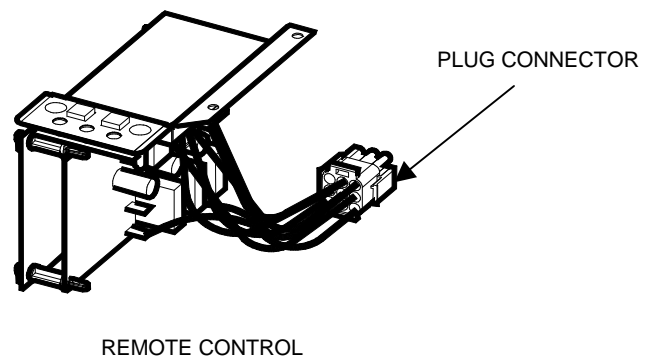

FIGURE 7
1. Locate and insert the plug connector on the remote control bracket into plug connector on the fireplace. FIGURE 7)